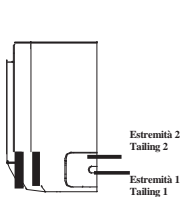

Fig.7
1. When routing the piping and wiring from the left side of the unit, cut off the tailings from the chassis in necessary (Show in Fig.7)